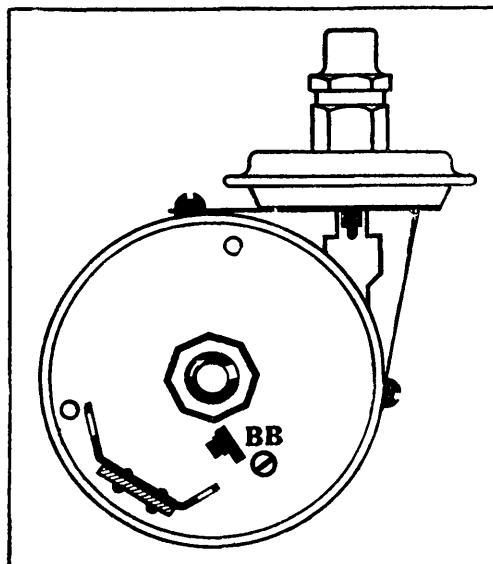

Fig. 15
5. The first screw to replace in the breaker plate is the one which goes in the hole close to the stationary breaker point ("BB", Fig. 15). When this screw is tightened the breaker plate will come down into place.